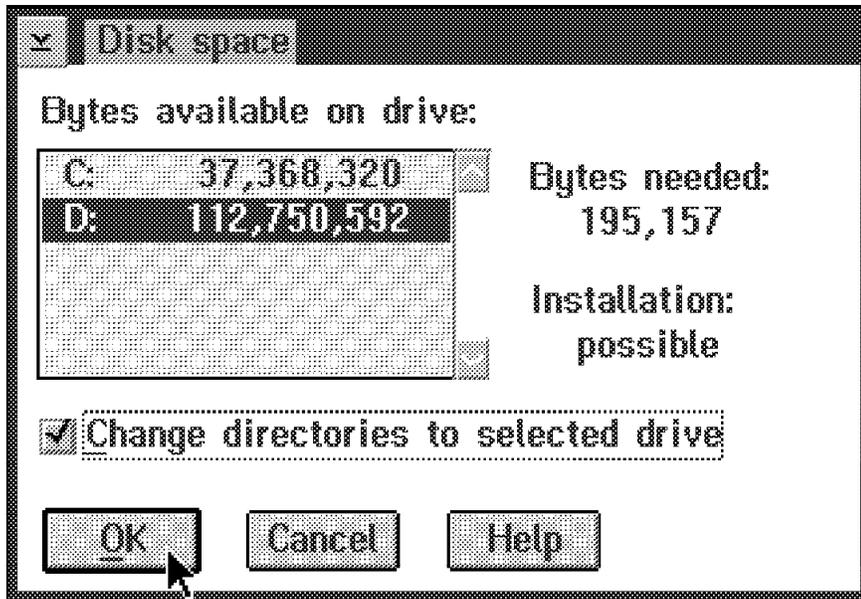

Figure 122. Install - Disk Space Window
- Leave default directory options; you may however want to change the drives from C: to D:. The recommended way to change the target drive and check available disk space is to click on the **Disk space** push button. You get a window like the one shown in Figure 122 on page 128.